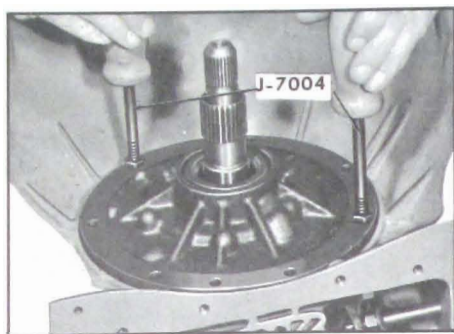

Figure 5-127
1. With transmission in vertical position, remove eight (8) pump attaching bolts with "O" ring seals, then install Slide Hammers J-7004 into threaded holes in pump. Using slide hammers, loosen pump from case. Remove pump and gasket from case. See Figure 5-127.